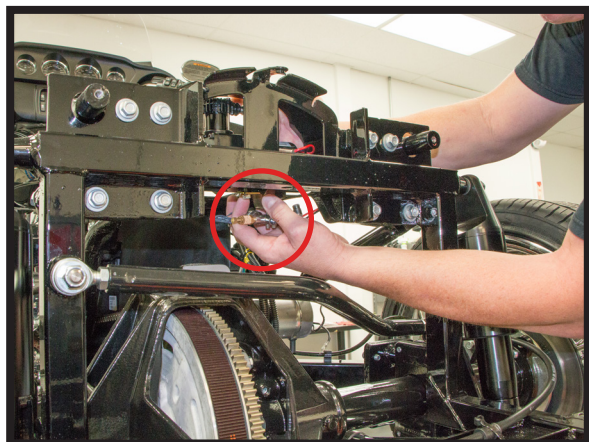

FIGURE 26
11. USING THE SCREW FROM THE PUMP BRACKET MOUNT THE PUMP ASSEMBLY AND THE AIR MANIFOLD TO THE FRAME AS SHOWN BELOW. (FIGURES 26, 27)